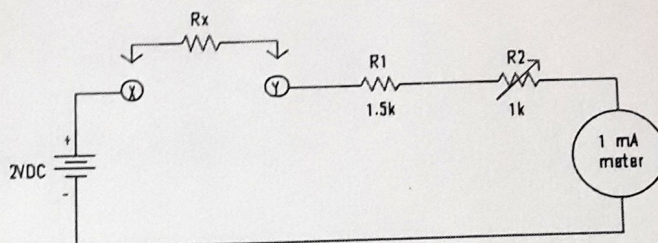

Figure 5
1. Connect the circuit shown in Figure 5, but leave the power supply turned off.